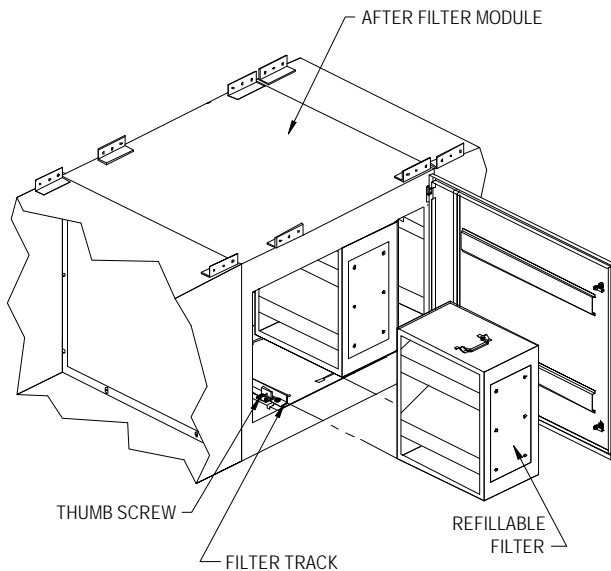

**FIGURE 5**
- Remove the bag filters from the unit by disconnecting the filter rods from the unit and disengaging the positive sealing system (**Figure 5**).